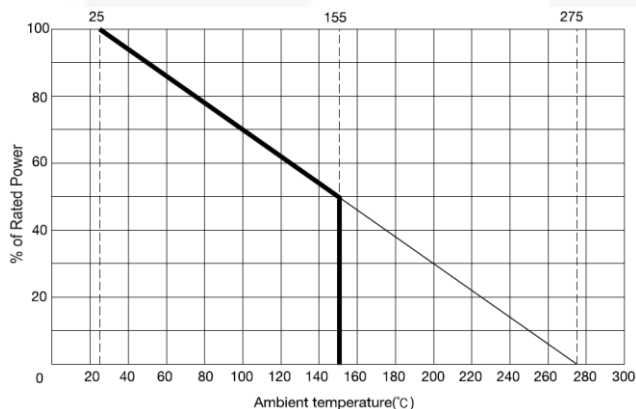

Figure 28. Derating Curve Example of Shunt Resistor (from RARA Elec.)
- Derating Ration of Shunt Resistor at $T_{SHUNT} = 100^\circ C$: 70% (refer to Figure 28)